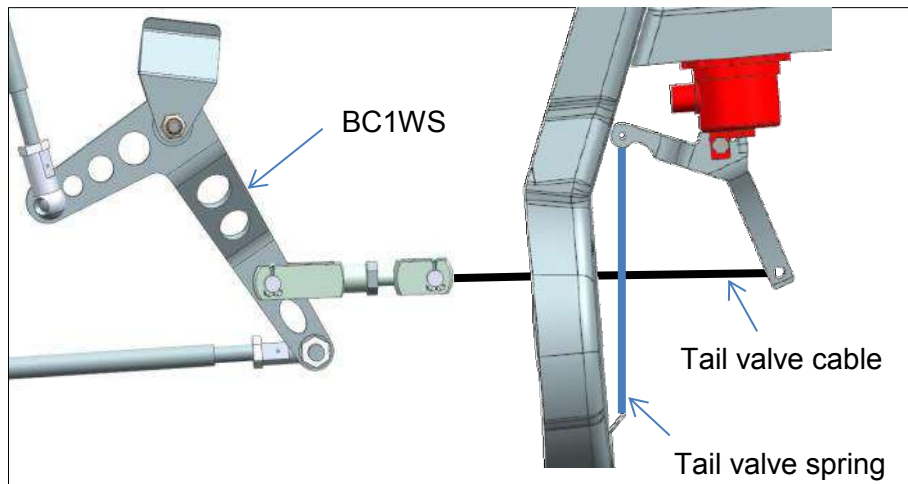

Figure 41-20: Tail valve cable and spring removal
6. Remove the pin and split pin shown in Figure 41-20 and cut the cable with a cable cutter behind the thimble and crimp.
7. Remove the tail valve spring (Figure 41-20).